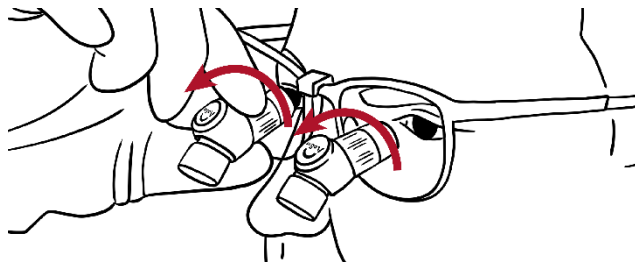
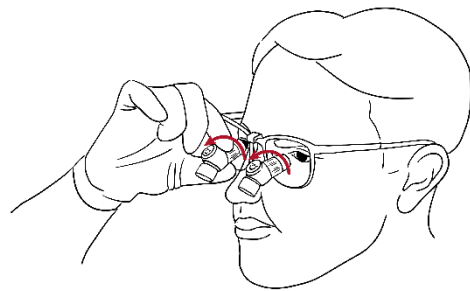

Fig.10
Fig.11
- Turn the wheel clockwise to increase magnification. [Fig.10 and Fig.11]